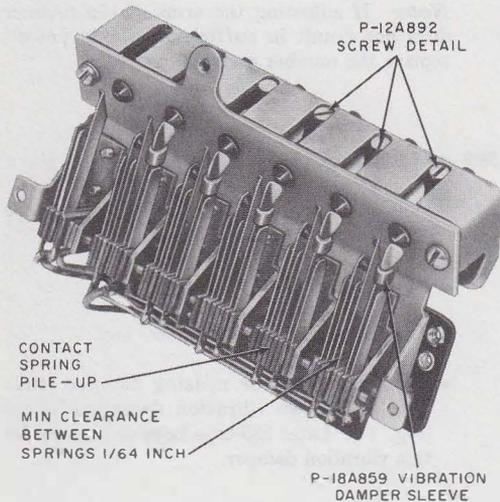

Fig. 14—589-Type Key, Bottom View
- Replacing loose or missing damper studs with P-18A859 vibration damper sleeves (Fig. 14). Later 589-type keys do not require this vibration damper.
3.15 Contact follow and separation is obtained by using a 363 tool at a point adjacent to contact spring pile-up (Fig. 14). When adjusting springs:
- There should be a minimum spring clearance of 1/64-inch between contact springs and those parts of the key which do not make contact with springs (Fig. 14).